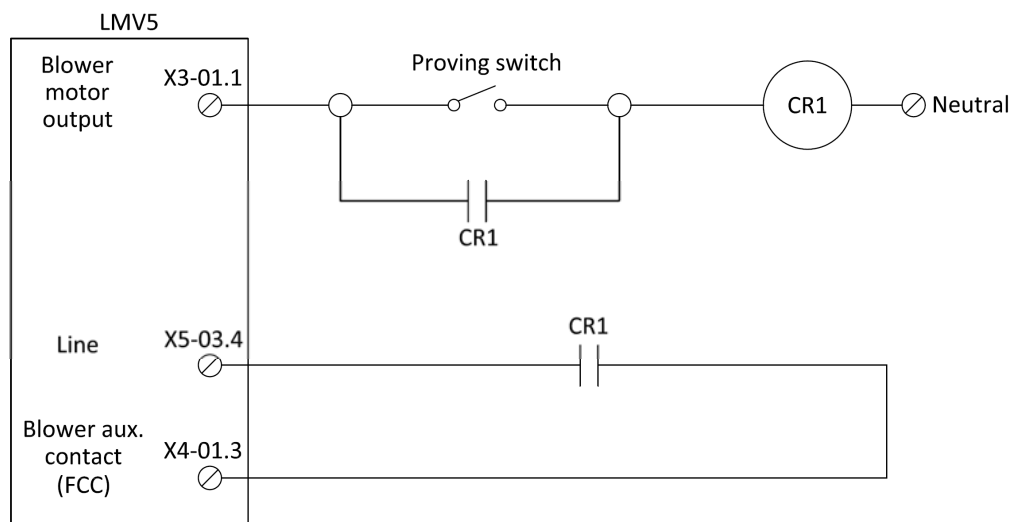

Figure 12: LMV5 Purge Proving Wiring Diagram
1. Wire the LMV5, proving switch, and two-pole relay as shown below in Figure 12.